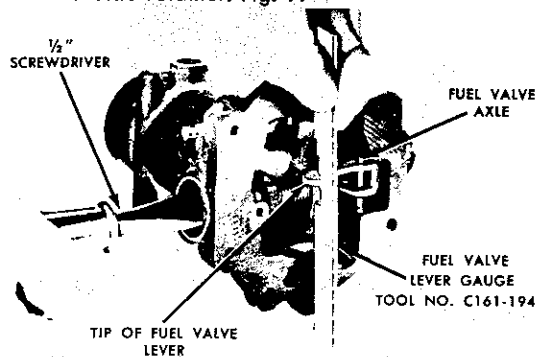
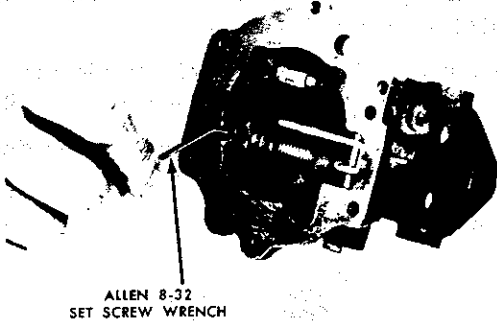

FIG. 10
FIG. 11
8. Place gauge, C161-194, on machined surface of casting. Adjust fuel valve lever to specified (Carburetor Specification Section) step on gauge by turning inlet orifice in or out Fig. 10. Secure position by tightening 8-32 Allen set screw Fig. 11.